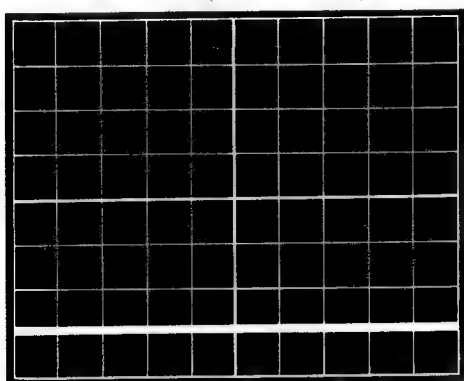
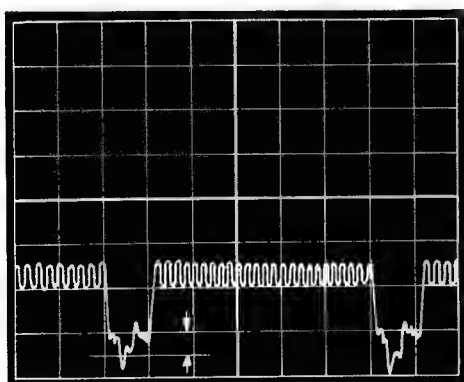
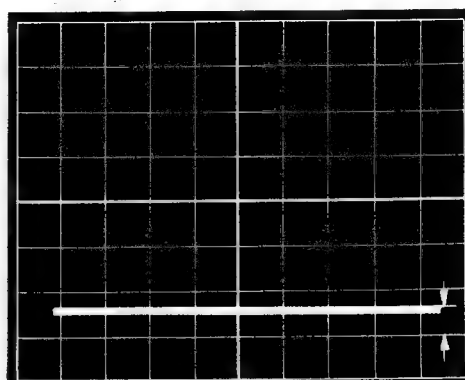

Fig. 5-2
Fig. 5-3 Sync tip level shift
Fig. 5-4 Clamp level
- e. Check to see that the sync tip of the composite signal sinks below the second division (See Fig. 5-2) by approx. 0.5 V. Measure the exact voltage by which the sync tip sinks below the clamp reference level set in Step 7-c (Fig. 5-2). See Fig. 5-3.
- g. Adjust scope STABILITY to observe a horizontal trace on the same position as seen on Fig. 5-2.
- h. Adjust R128 so that the horizontal trace on the scope moves up by the voltage measured in Step 7-e (Fig. 5-3). See Fig. 5-4.